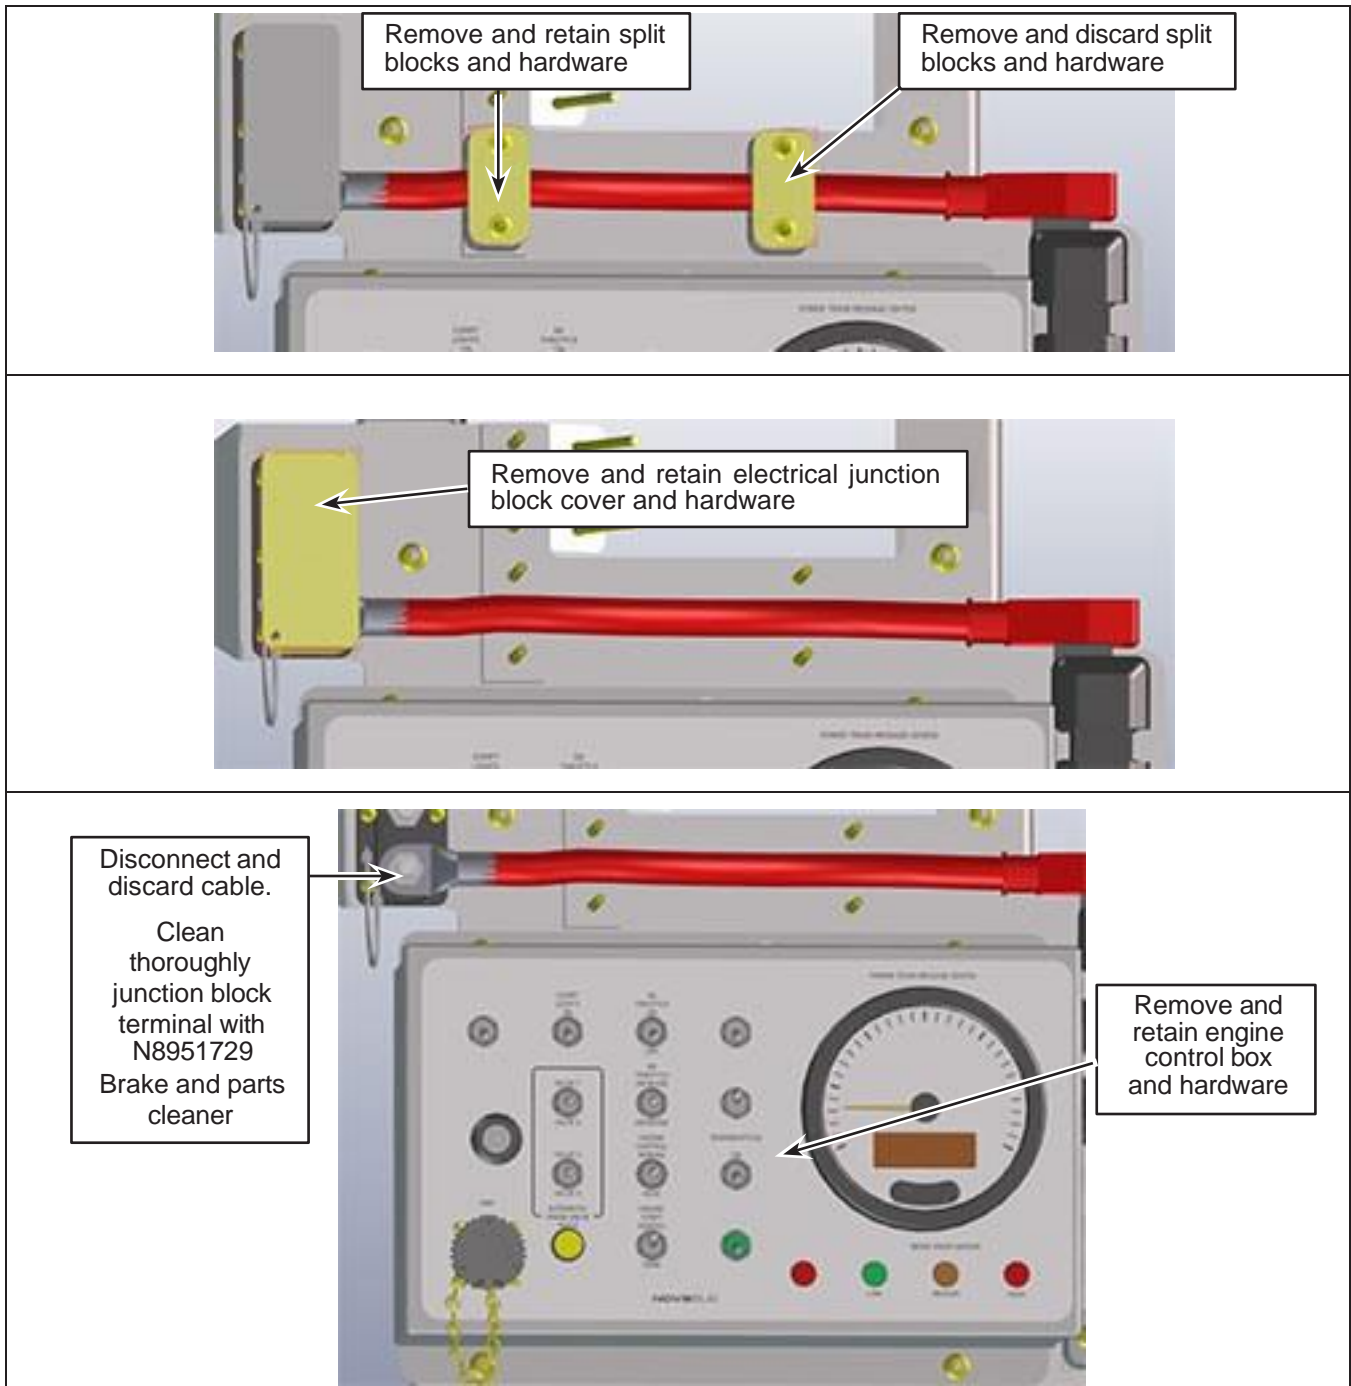

Figure 3 - Cable and Engine Control Box Removal Step by Step
- 1.13. Remove the split-blocks fixing the cable above the rear engine control box. Retain one split block and its hardware. See Figure 3.
- 1.14. Remove the cover from the top of the electrical junction block located above the rear engine control box. Retain cover and hardware. See Figure 3.
- 1.15. Disconnect the cable from the junction block terminal and clean thoroughly the junction block terminal with the brake and part cleaner (P/N N8951729) or any equivalent product. Retain the hardware and discard the cable. See Figure 3.
- 1.16. Disconnect and remove the engine control box. Retain the engine control box and hardware. See Figure 3